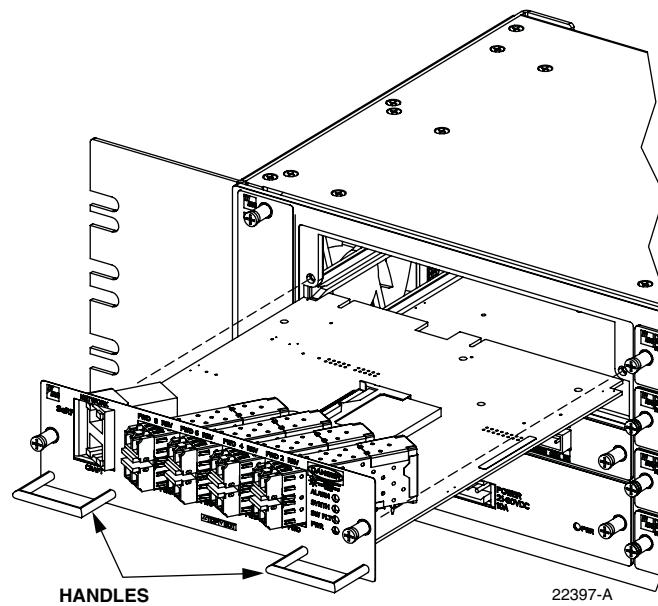

Figure 24. SeRF Card Replacement
4. Loosen the two thumb screws that secure the System Card to the front of the HU enclosure. See Figure 24.